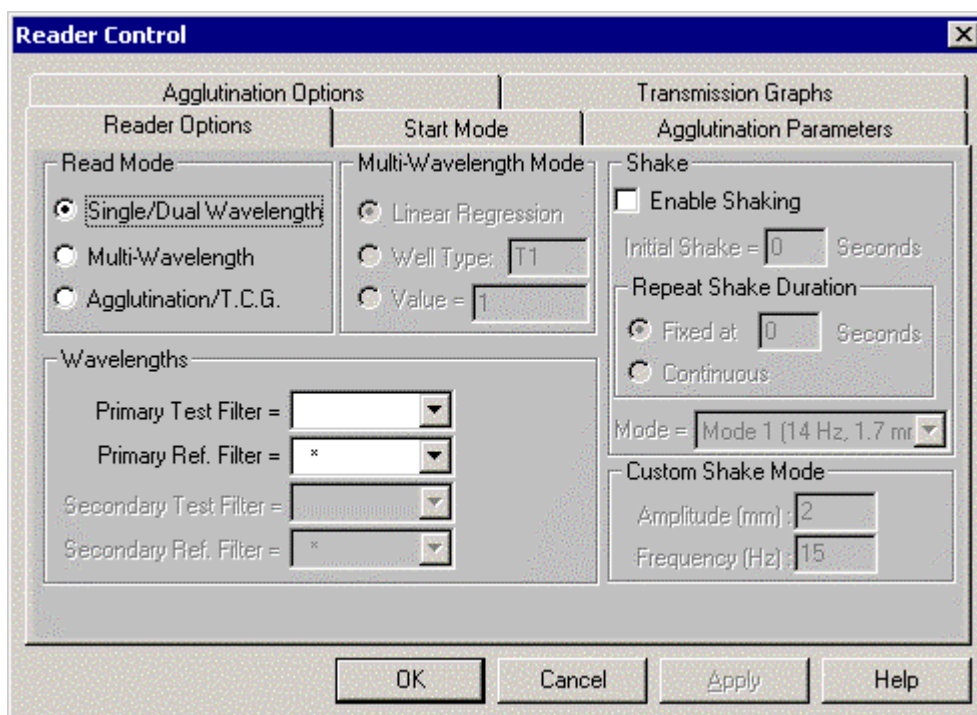

Figure 3-2 The Reader Control Dialog Box - Reader Option Tab
- 4 In some dialog boxes, the commands are organized in a region that relates to a specific task. As an example, Figure 3-2 includes boxes around parameters that relate to the Read Mode, Multi-Wavelength Mode, etc. In this manual, these regions will be called out by an underline (e.g. Read Mode) and each of the commands (selections, etc) in the region will be indicated in bold face and described immediately below the descriptor of the region.